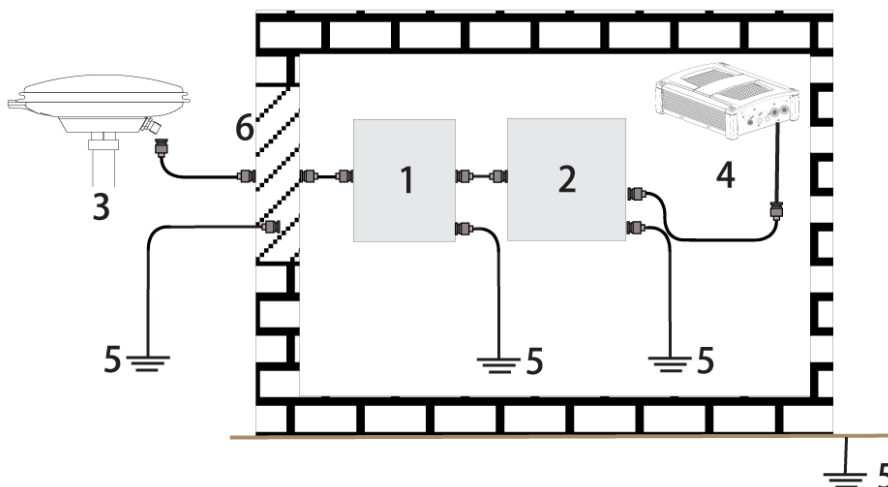

Figure 1: Primary and Secondary Lightning Protection
6. The primary and secondary lightning protections should be as close to the building's entrance as possible. Where feasible they should be mounted onto the grounding plate itself. See also *Figure 1, Primary and Secondary Lightning Protection* below.